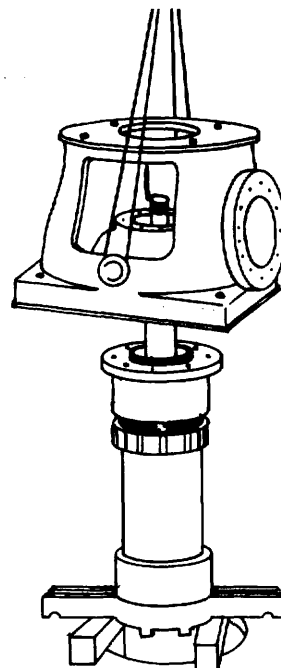
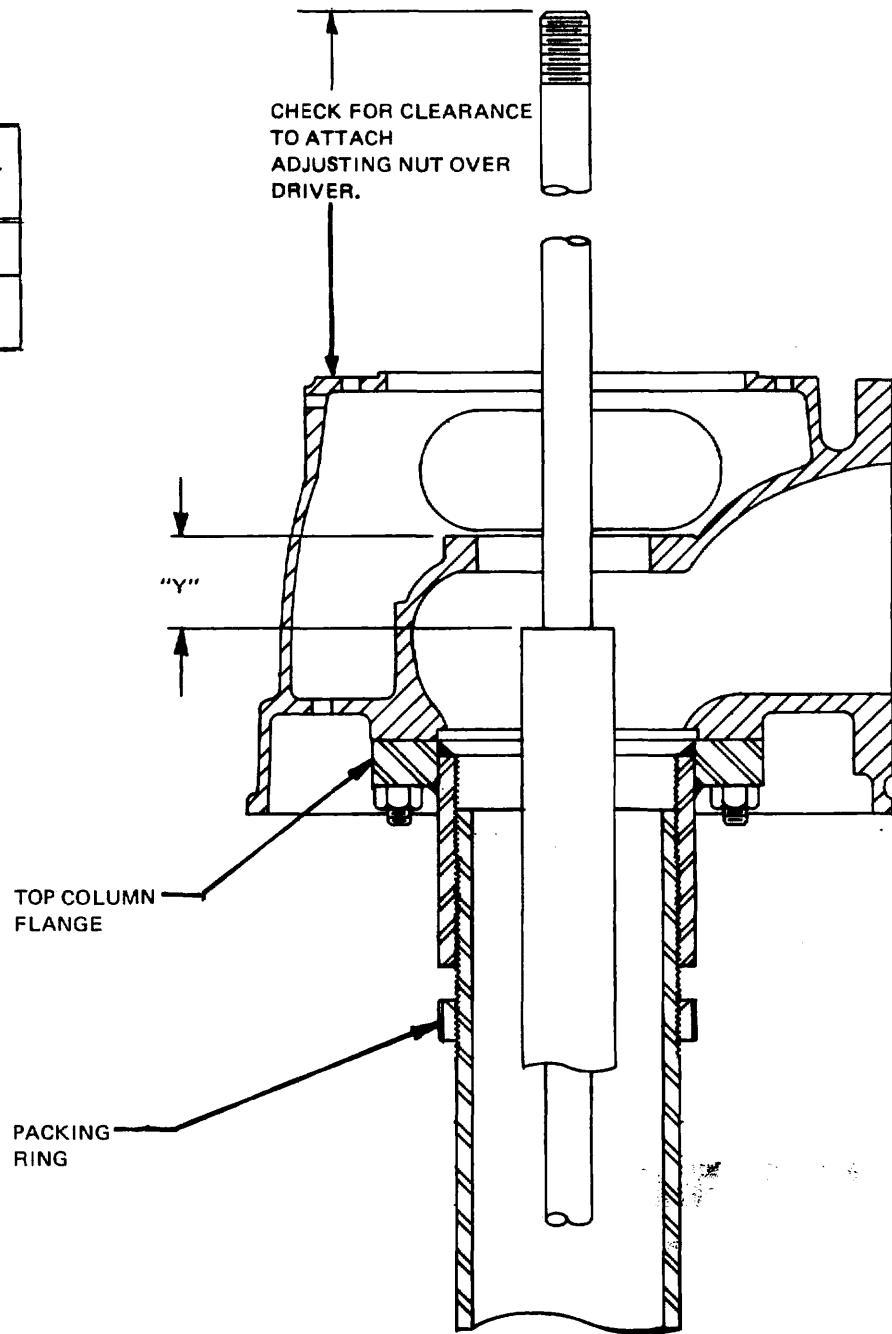

FIG. 6 – METHOD OF RIGGING HEADS FOR LIFTING.
FIG. 7. — ADJUSTMENT OF TOP COLUMN FLANGE.
2. Attach slings to the head for lifting as shown in FIG. 6.
2. Rotate the head until the top tube is positioned in accordance with FIG. 7 & TABLE 1.
- (A) Fill the chamfer on the lower end of the top column flange with the lampwick packing that has been coated with non-hardening thread compound. Use a generous amount of packing. Wind the packing around the column pipe in a clockwise direction so that when the packing ring is tightened, the packing is forced into the chamfer on the flange.
- (B) Screw the packing ring up against the flange and tighten securely.
5. Using slings attached to the head as shown in FIG. 6. Lift the entire pump assembly slightly, remove the clamps from the long section of column pipe, remove the setting beams, clean the surface of the foundation, and loosen or remove the anchor bolt nuts if they have been installed.